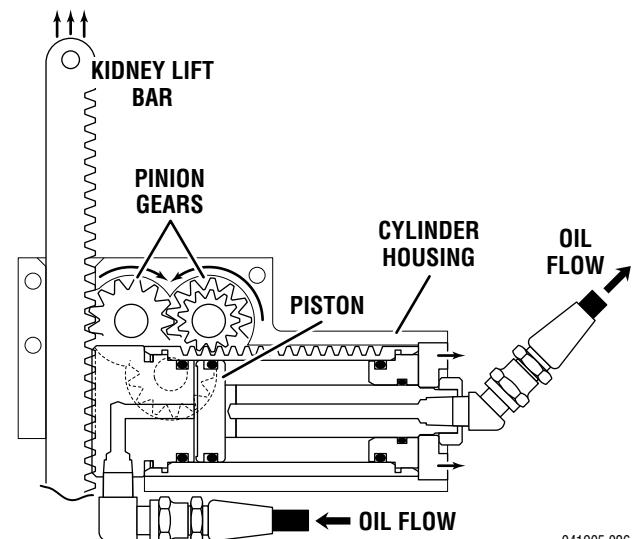

Figure 1-12. Kidney Lift Cylinder Assembly
5. Kidney Lift - The two kidney lift cylinder assemblies are a unique type of double action cylinder where the piston remains stationary and the outer housing or cylinder has the relative motion. The cylinder housing has rack teeth cut into the top which meshes with a pinion gear. This gear meshes with other gears to supply the up or down drive for the kidney lift bars, depending on which direction the oil is pumped into the cylinder. See figure 1-12.